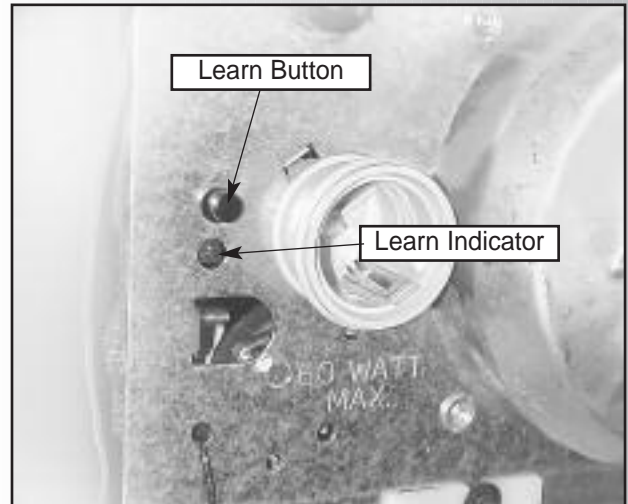

Fig. 9-1
- Locate learn code button and learn indicator on power head **Fig. 9-1**.